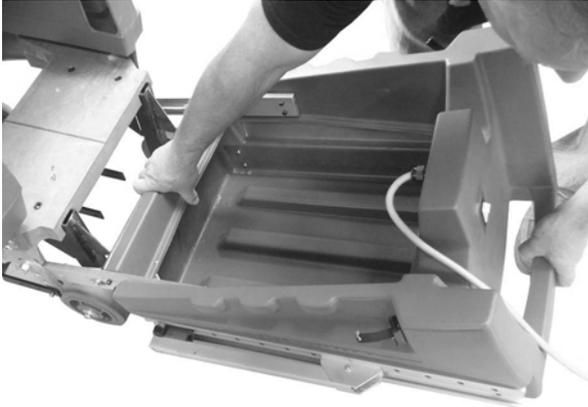

Fig. 3
4. While holding the locking bar, raise the handle and secure in the upright position with the two handle latches (Figure 3). This will raise the vacuum head and brush holding assembly allowing the brushes to be inserted into their holders. **Note:** The brushes should be inserted differently each time so they do not take a set in one direction or lose their resiliency.